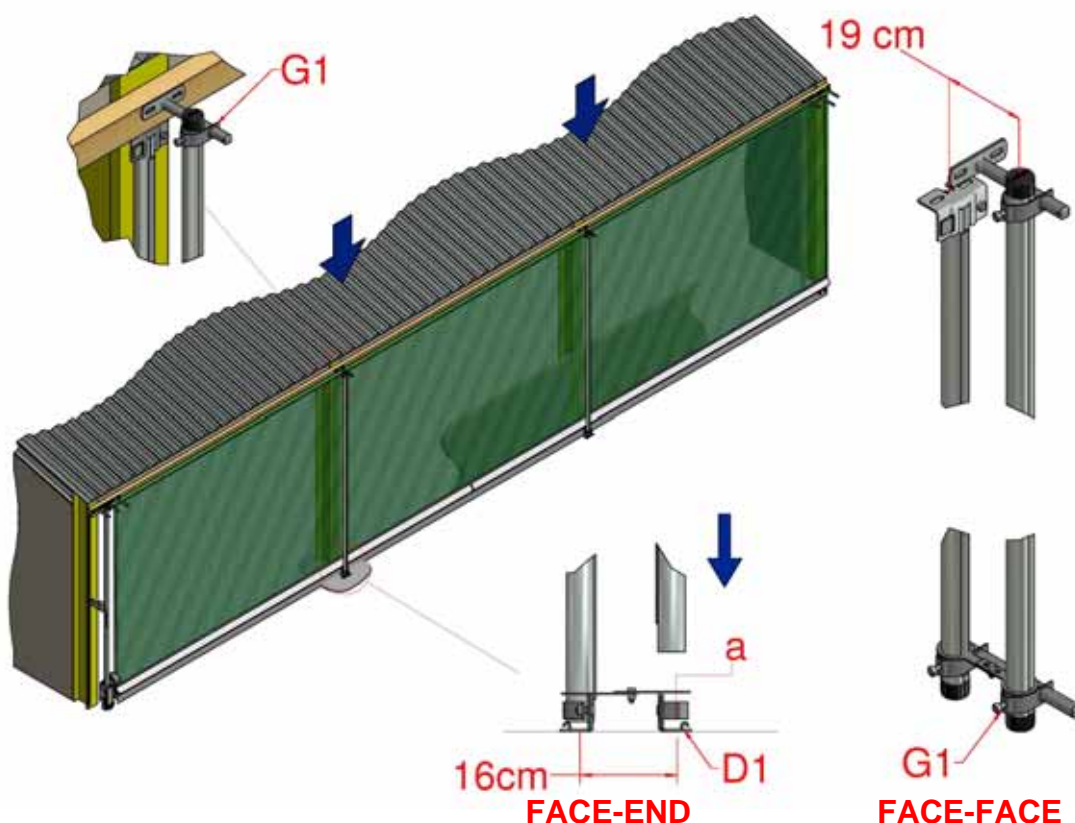

Figure 18, Outer Control Tube Installation
- 4.8 Fit all intermediate outer Control Tubes between the upper and lower brackets, not including those for the End Covers, as shown in Figure 18. Cut the fitted Face Brackets to length (if desired) and complete by fitting protective black caps (T1) to free ends of tubes